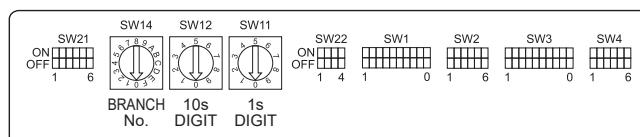

Fig. 4-9
4.5. Setting addresses (Fig. 4-9)
- ① How to set addresses
- ② How to set branch numbers SW14 (Series R2 only)
4.6. Sensing room temperature with the built-in sensor in a remote controller (Fig. 4-9)
4.7. Switch setting for high ceiling (Fig. 4-9)
4.8. Switch setting for i-See sensor (Fig. 4-9)
4.9. Switch setting for horizontal airflow direction (Fig. 4-9)